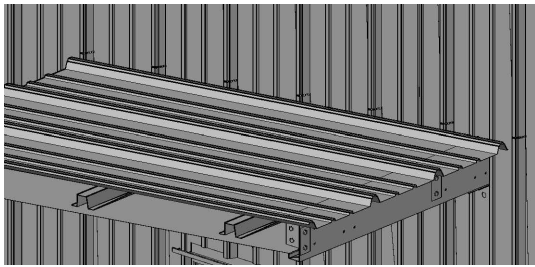

FIGURE 10
1. Place the Roof Sheet on to the Hat Purlins. Center the sheet and slide against the building wall sheets as shown. Mark each of the wall corrugations at the top of the roof panel per **Figure 10**.